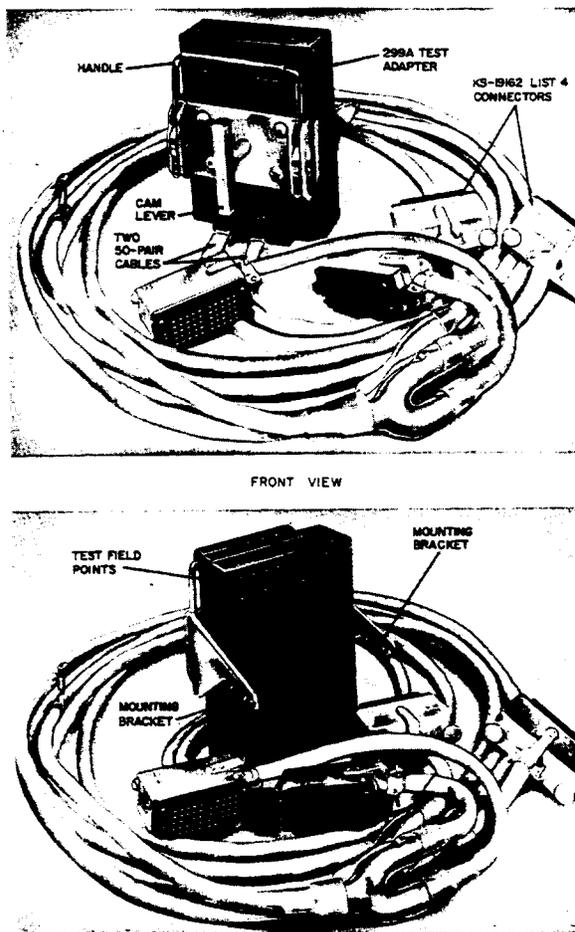

Figure 13. 299A Test Adapter
8.01 The 299A and 299B test adapters (Figures 13 and 14) are used in testing the 407-type connector. The 299A test adapter provides testing with or without the 4C type units. The 299B provides testing with the 4C units in the service position or in the detent position. See AT&T 201-208-106 for description and use.